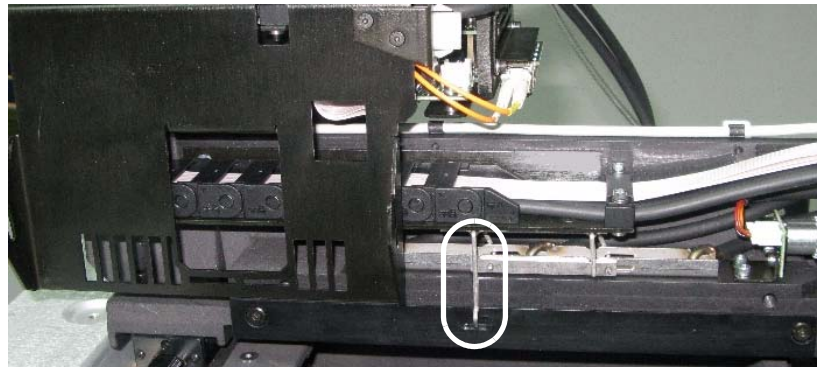

Figure 7-29: Roller-waste-collector locking pin
3. Turn the locking pin clockwise, to lower the drain-tube bracket onto the roller waste collector, and secure the pin in its socket (see figure 7-29 on page 21).